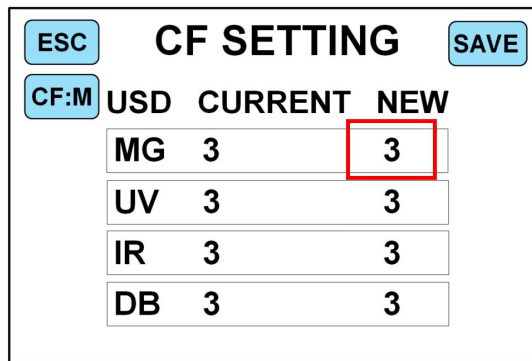

Figure 39
a) The initial parameters of the medium gear are shown as follows. The default counterfeit gear of MG is 3, and the default NEW row value is 3, as shown in Figure 39 below: